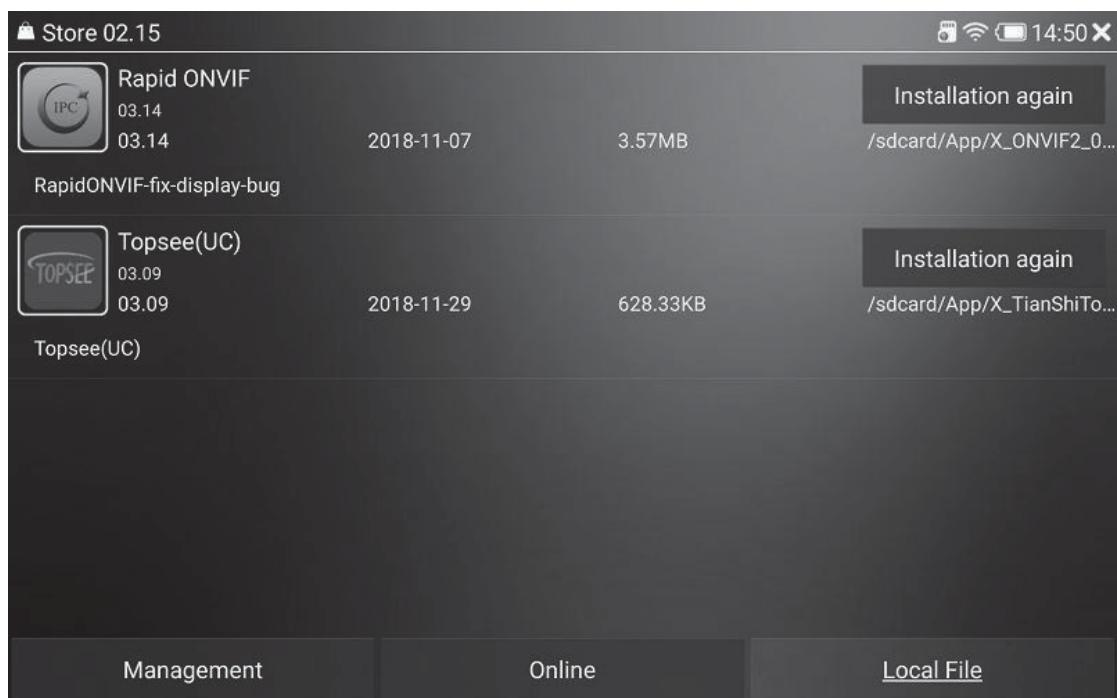

Figure 39
1) Browser function enables user to access the IPC camera directly through web page, touch the ‘Browser’ icon to enter browser function, input camera IP address directly in address bar to open the camera web page, as shown in Figure 39 (notice: all IPC testers in the market do not support installing plug-ins for browser).
3) Local installation, touch 'Local File', the instrument will scan internal storage, SD card and U disk to look for installable software packages, long press corresponding Apps to delete application file, as shown in Figure39